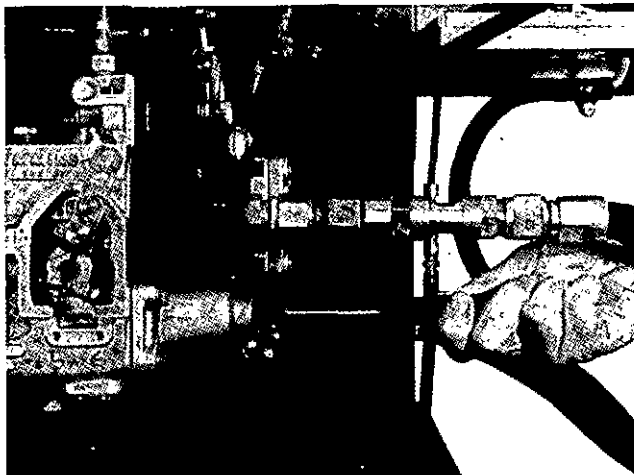

Fig. 10-20, (F5331). Adjust the lower governor idle speed.
4. Check the cc per minute on the leakage flow meter or the pressure on the fuel pressure gauge. It must be the same as line 12 or 13 of the calibration data table. If the cc or pressure is low, turn the idle adjustment screw in with Tool No. ST-984 or 3375981 Idle Adjustment Tool. This screw is inside the governor spring assembly housing. To lower the pressure turn out the screw. For example: 21 psi @ 500 rpm or 190 cc @ 600 rpm on Pump Code 3650. Fig. 10-20.